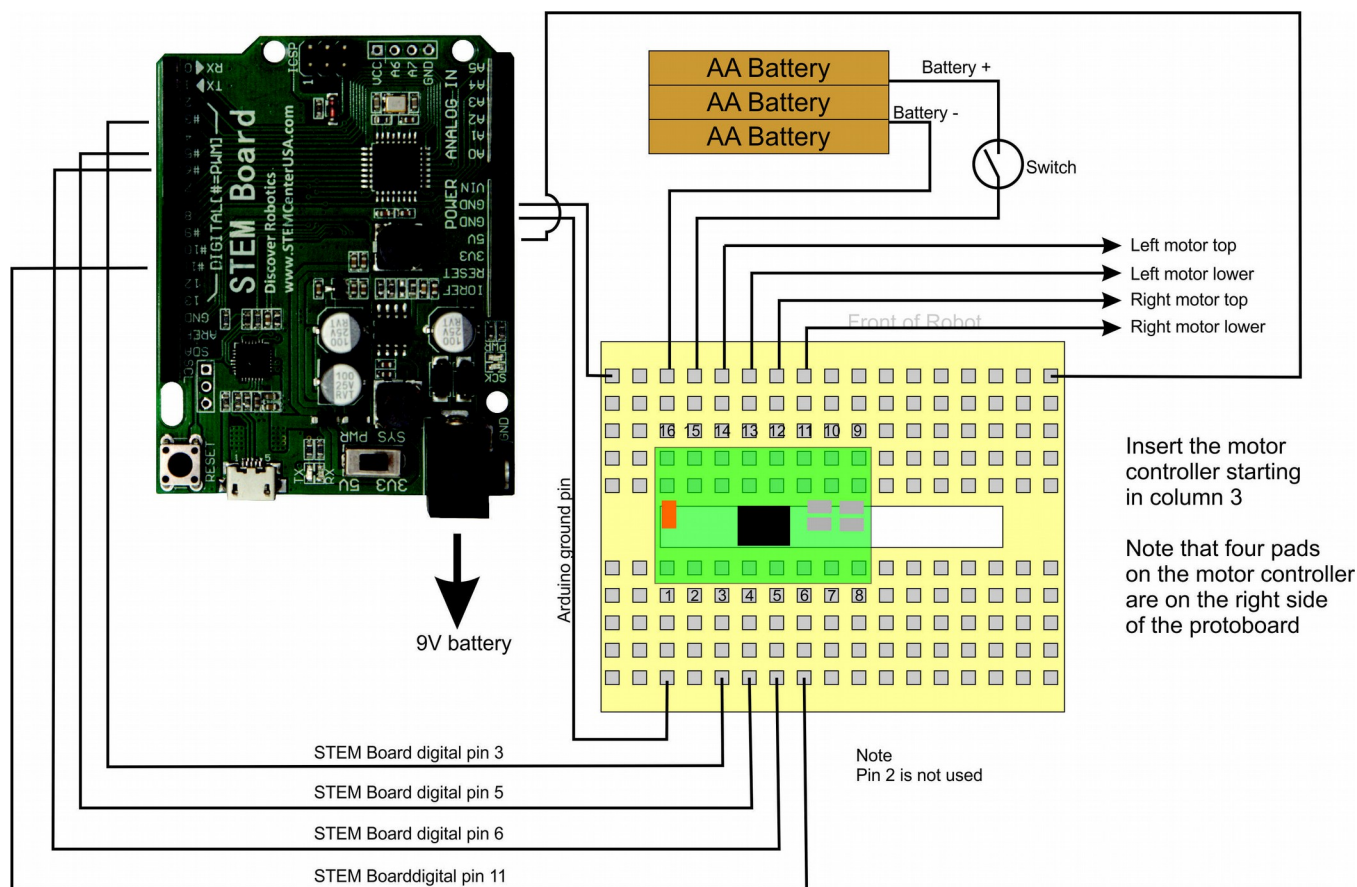

Figure 2.32
Connect the positive (red) wire from the power switch to the motor controller. Connect two (2) ground (black) wires from the motor controller to both the STEM Board microprocessor and the breadboard (to be used later). See the wiring diagram in figure 2.32.
Verify your circuit using the wiring diagram in figure 2.32.